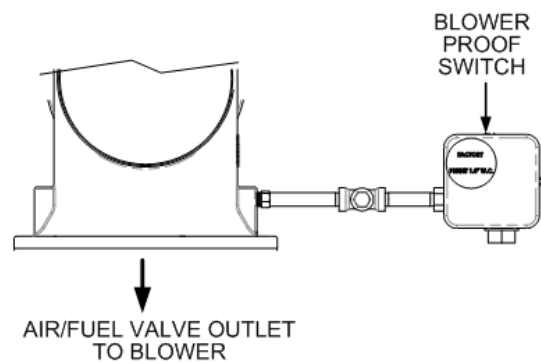

Figure 3-5. Blower Proof Switch
- Next, the blower proof switch on the Air/Fuel Valve (Figure 3-5) closes. The display will show *Purging* and indicate the elapsed time of the purge cycle in seconds.